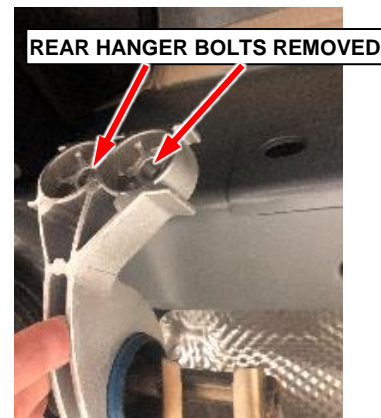

Figure 5 – Rear Exhaust Hangers
6. Lower the exhaust system at its rear hangers at the rear of the vehicle to create clearance to lower the rear suspension crossmember. Support the system with a jack stand or strap (Figure 5).